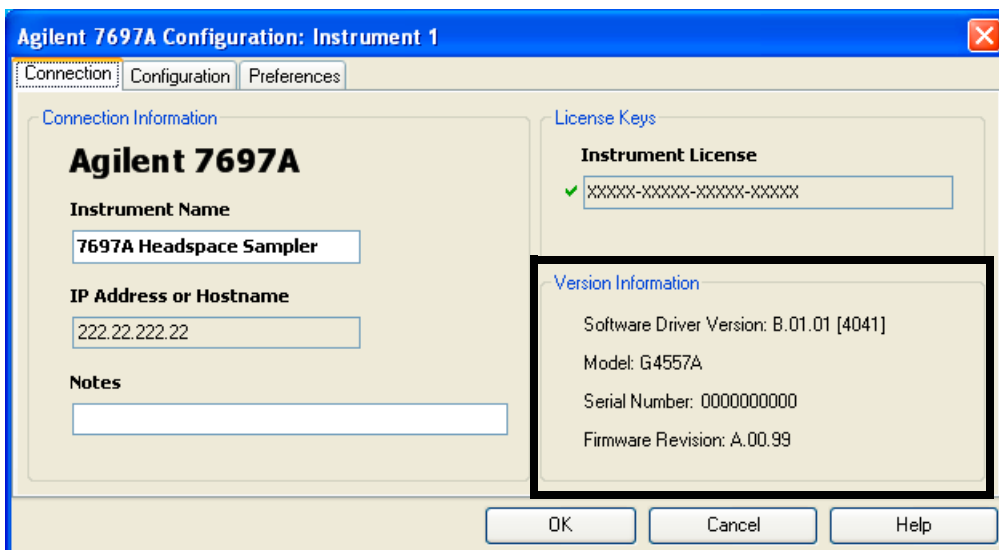

Figure 8 Setting HS connection information
- 2 Select the **Connection** tab (Figure 8) to access instrument connection information, license keys, and system version information.